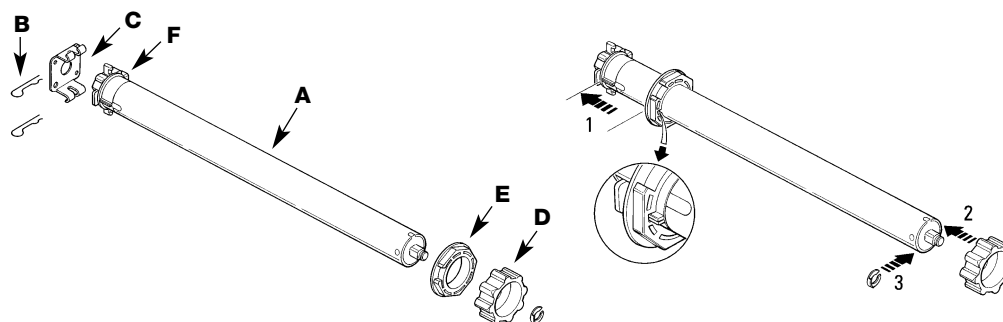

Fig. 4
- Fix support [C] shown in figure 4 securely; note that you must leave sufficient space for the motor head between the support and the roller tube.